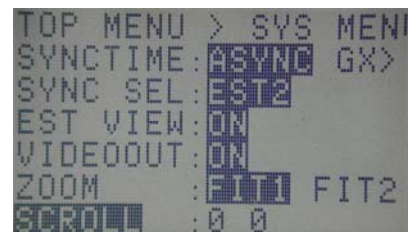

Figure 3-73 SCROOL(SYS MENU)
- 3) Use the arrows   to select "SCROLL" from the SYS MENU and press SET . (Figure 3-73)